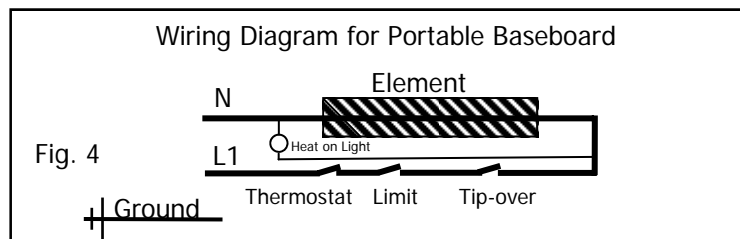

Fig. 4
5. A safety limit control is provided to turn off the heater automatically if it is blocked or otherwise overheats due to an abnormal condition-see Figures 4 and 5. DO NOT bypass or remove this safety device from the electrical circuit-see Warning 11 on page 2. During normal use, this safety control should not operate. If you find that this control is operating, make sure the heater is not being blocked. If it continues to cycle the heater off, disconnect power to heater and have it checked and repaired by a qualified electrician.